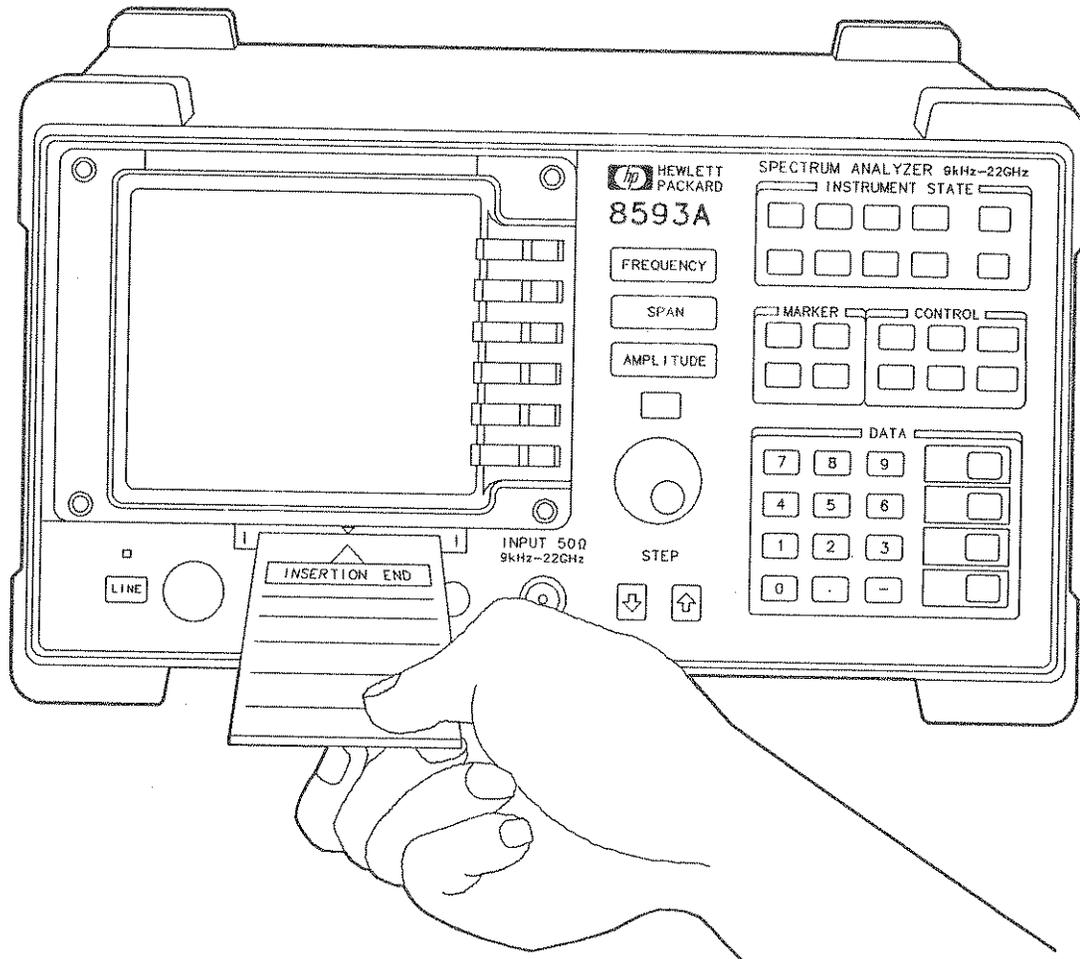

Figure 5-6. Inserting the Memory Card
2. Insert the card with its arrow matching the raised arrow on the bezel around the card-insertion slot. See Figure 5-6.